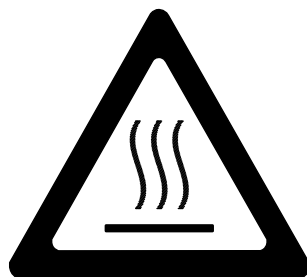

Figure 3. Hot surface symbol
- Figure 3. Hot surface symbol **14**